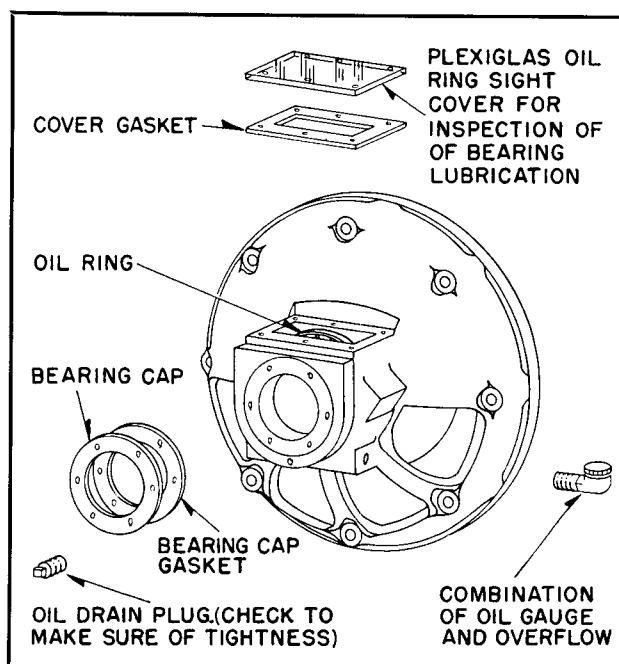

FIG. 6. Detail of Sleeve Bearing Bracket
1. Drain oil by removing drain plugs from bearing housing. See Fig. 6.